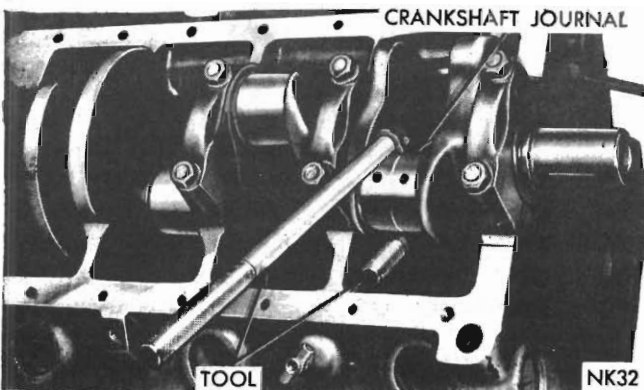

Fig. 36 - Removing or installing connecting rod
(4) Be sure position of rings does not change during this operation. Screw the connecting rod bolt protector (part of Tool E9C50D) on one rod bolt, and insert rod and piston into cylinder bore. Rotate crankshaft so connecting rod journal is on the centre of cylinder bore.
(5) Attach puller part of Tool E9C50D on the other bolt, and guide the rod over the crankshaft journal (Fig. 36).
(6) Tap the piston down in the cylinder bore, using a hammer handle. At the same time, guide connecting rod into position on crankshaft journal.
(7) The notch or groove on top of piston must be pointing towards front of engine and the larger chamfer of the connecting rod bore must be installed toward crankshaft journal fillet.
(8) Install rod caps, tighten nuts to 45 lbs. ft.